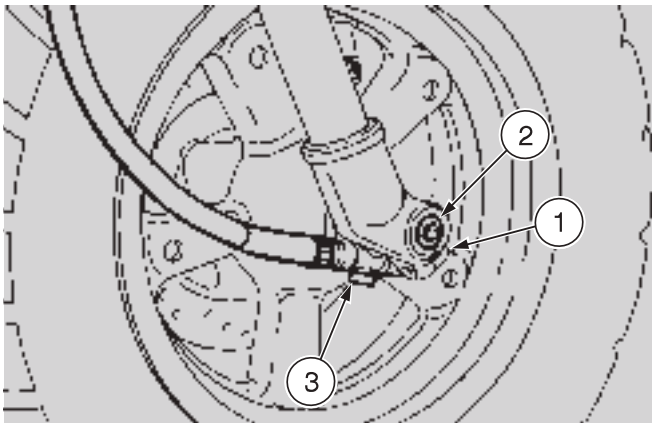
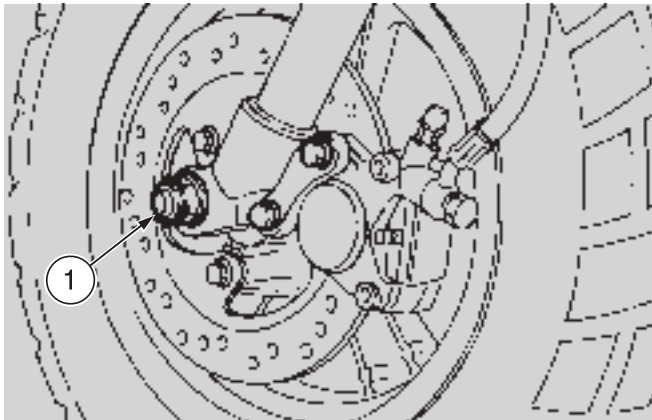

Fig. 30
Fig. 31
- ◆ Loosen the screw of the wheel pin clamp (1-Fig. 30).
- ◆ Lock the wheel pin (2-Fig. 30) by means of an hexagon spanner.
- ◆ Remove the nut (1-Fig. 31), taking the washer.
- ◆ Push the wheel pin (2-Fig. 30), by carefully acting on the threaded end and using a rubber hammer if necessary.
- ◆ Disconnect the odometer control (3-Fig. 30).
- ◆ Position the odometer control tang (3-Fig. 30) in the apposite seat in the wheel hub.
- ◆ Insert the pin (2-Fig. 30) from the right side of the vehicle (direction of travel).
- ◆ Insert the washer, lock the rotation of the wheel pin (2-Fig. 30) by means of an hexagon spanner and screw and tighten the nut (1-Fig. 31).
- ◆ Tighten the wheel pin clamp screw (1-Fig. 30).